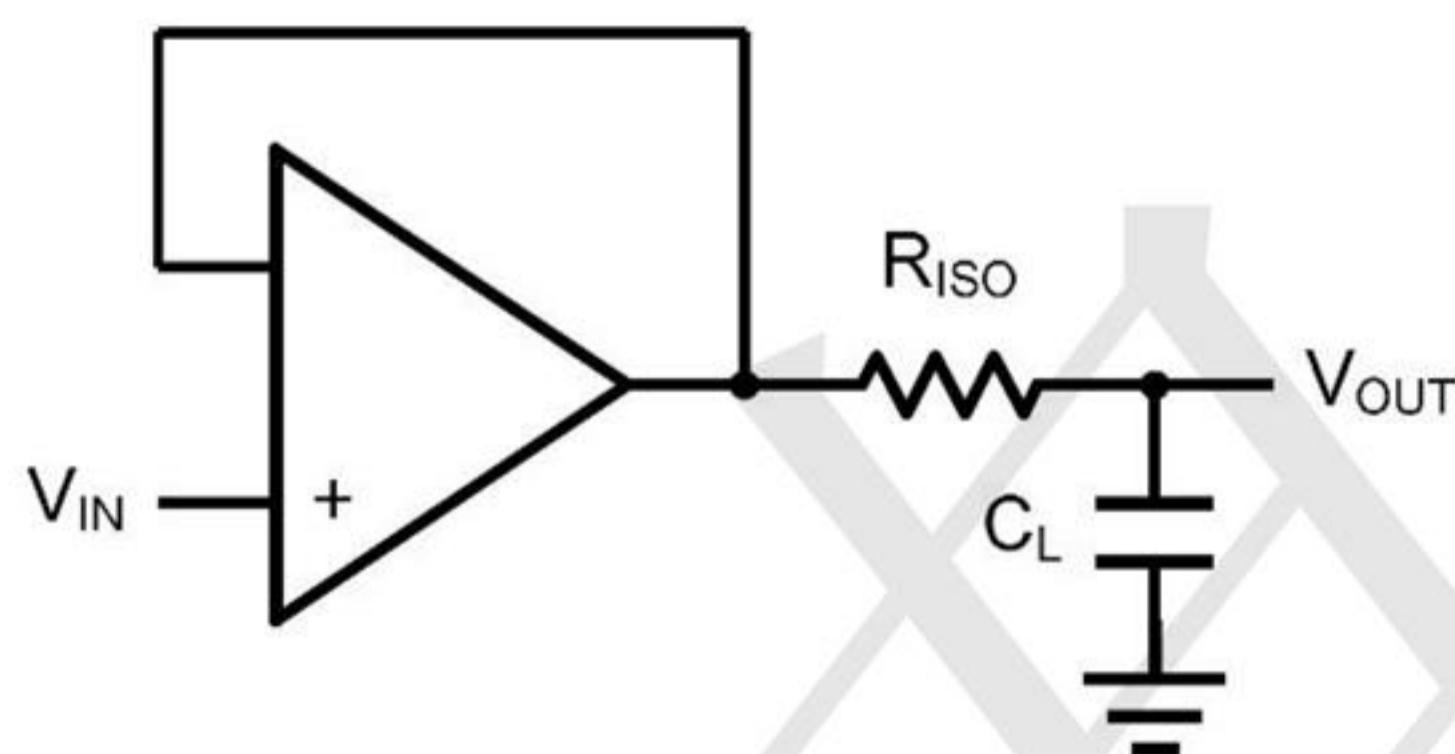
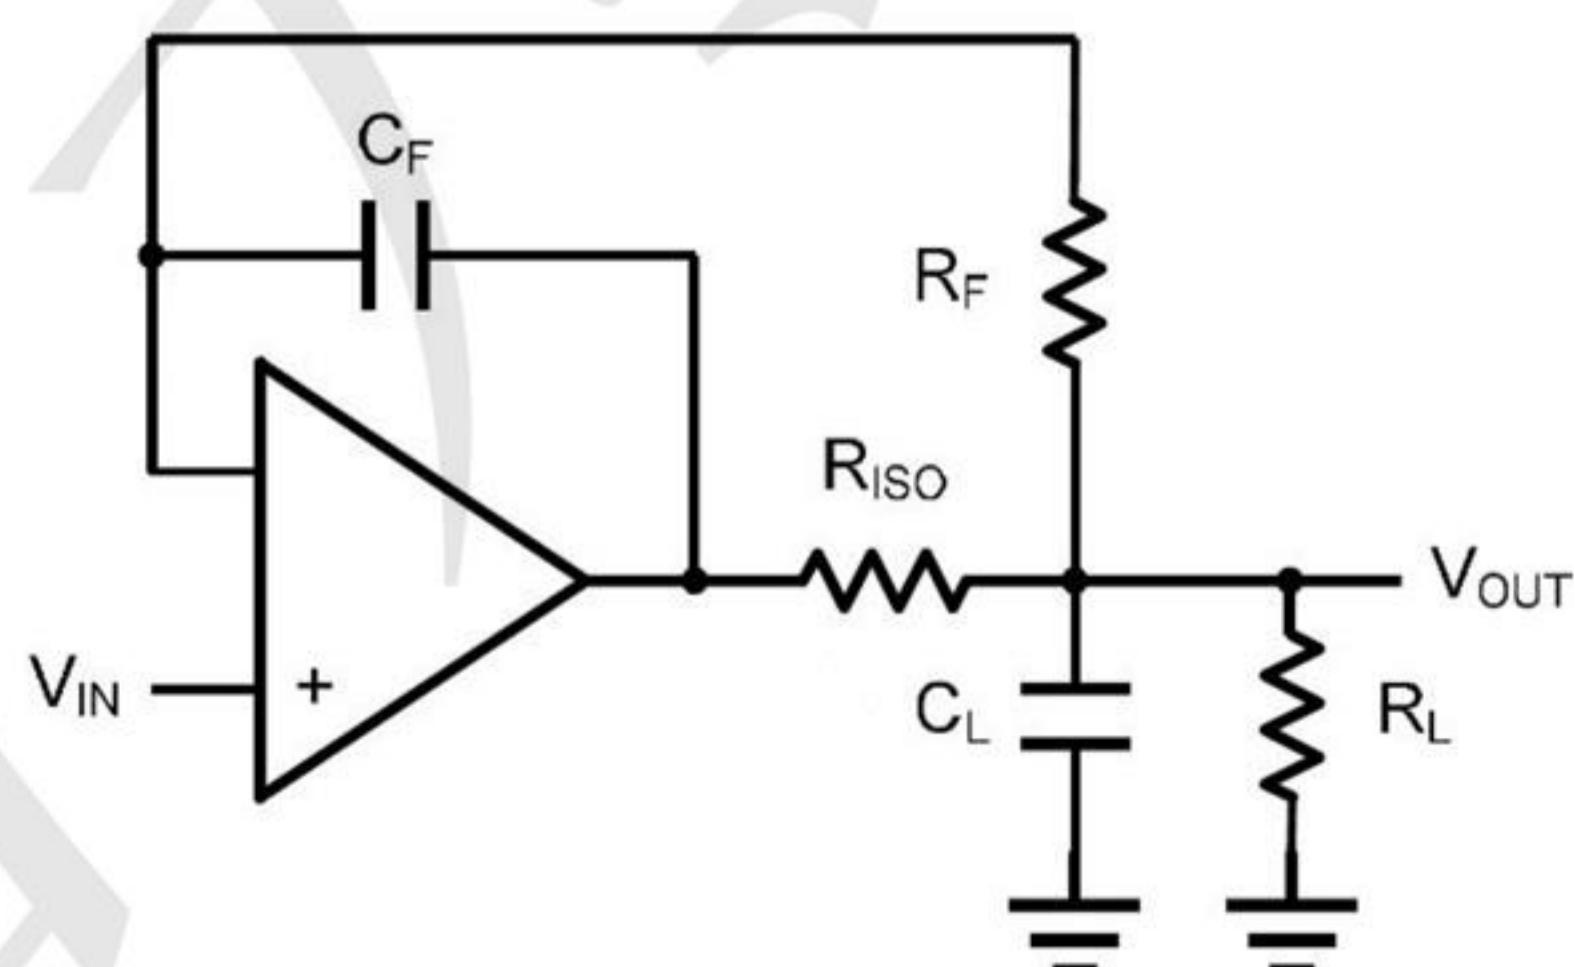

Figure 2. Indirectly Driving a Capacitive Load Using Isolation Resistor
Figure 3. Indirectly Driving a Capacitive Load with DC Accuracy
The TPV863X family is optimized for bandwidth and speed, not for driving capacitive loads. Output capacitance will create a pole in the amplifier's feedback path, leading to excessive peaking and potential oscillation. If dealing with load capacitance is a requirement of the application, the two strategies to consider are (1) using a small resistor in series with the amplifier's output and the load capacitance and (2) reducing the bandwidth of the amplifier's feedback loop by increasing the overall noise gain. Figure 2. shows a unity gain follower using the series resistor strategy. The resistor isolates the output from the capacitance and, more importantly, creates a zero in the feedback path that compensates for the pole created by the output capacitance.
The circuit in Figure 3 is an improvement to the one in Figure 2. R_F provides the DC accuracy by feed-forward the V_{IN} to R_L . C_F and R_{ISO} serve to counteract the loss of phase margin by feeding the high frequency component of the output signal back to the amplifier's inverting input, thereby preserving the phase margin in the overall feedback loop. Capacitive drive can be increased by increasing the value of C_F . This in turn will slow down the pulse response.